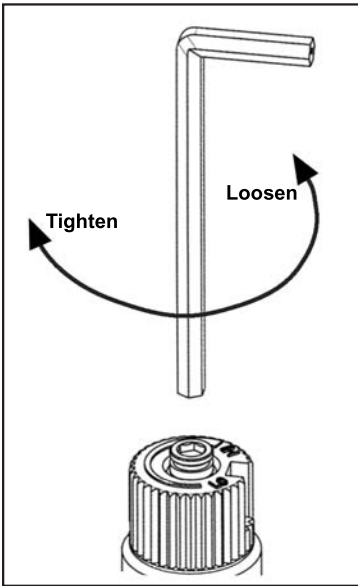

Figure 12: Removing valve screw.
- b) Insert a $\frac{5}{32}$ " or 4 mm Allen wrench into the hexagonal key-way of the screw (see Figure 12), rotate it counter-clockwise until it is free and extract it.
- e) Using the Allen wrench as shown in Figure 12, rotate the screw clockwise until a torque of 9 inch lbs. **WARNING!** Do not over tighten the screw. It is recommended that you grip the wrench by the short side.